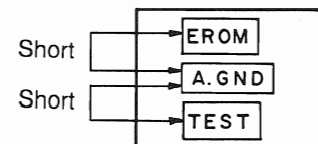

Fig. 5
3. Playback the azimuth adjustment portion (8 kHz, -20 dB) of test tape (QZZCFM). Adjust the azimuth adjusting screw until the outputs of the L/R-ch are maximized. (Refer to Fig. 5.)
- Connect **EROM** and **TEST** to the chassis (GND). (Refer to Fig. 1 and Fig. 5.)